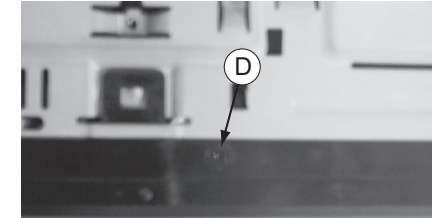
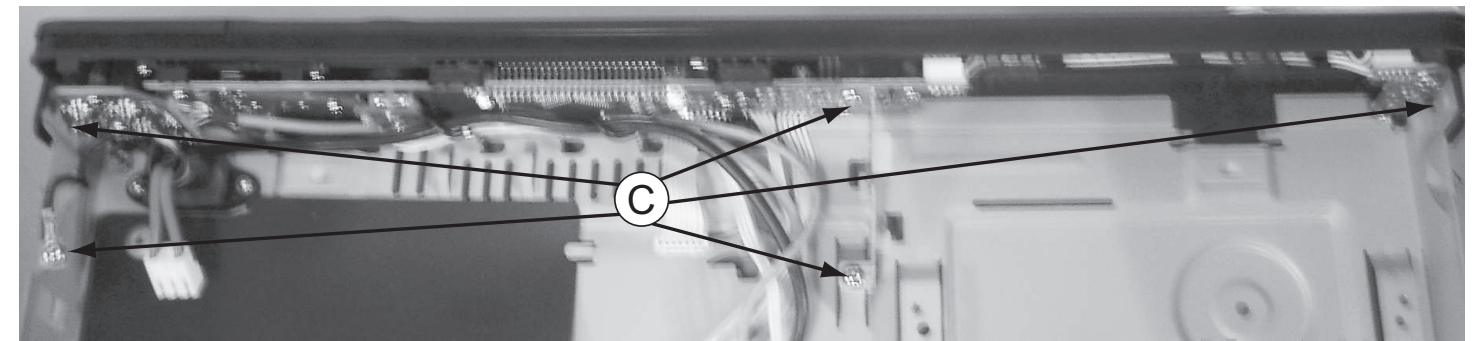

Figure 7
Figure 6
- 4) Loosen 5 screws "C" at the front panel bracket as shown in figure 6, and loosen 1 screw "D" at the front panel bottom as shown in figure 7 to remove front panel.